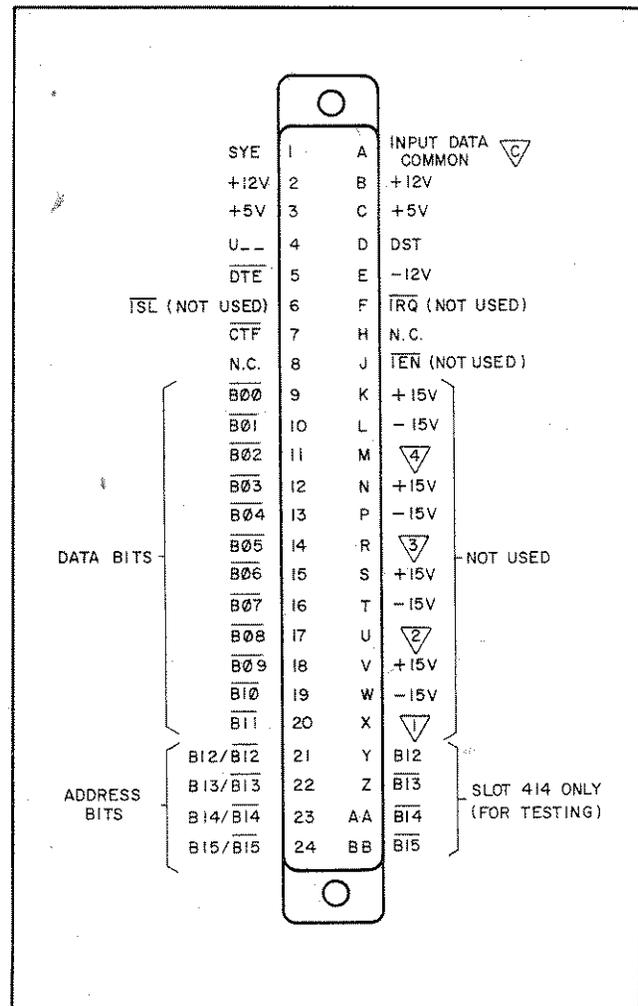

Figure 3-1. Multiprogrammer 400 Series Slot Connector
3-2 The programmable resistance cards are controlled by the multiprogrammer unit in which they are installed. All dc operating power, address and data bits, and control signals are supplied to the output cards through the multiprogrammer main frame connectors in slots 400 through 414. Figure 3-1 illustrates the signals present on all multiprogrammer 400-series connectors.
3-10 An output card is selected to receive new data when its associated address bits ($\overline{B12}/\overline{B12}$ through $\overline{B15}/\overline{B15}$) and a unit select line (U--) are all HI. Although both the true and complemented forms of the address bits are represented on Figure 3-1 (e.g. $\overline{B12}$ and $\overline{B12}$) only one of the two states is present on each of the four address gate lines when the card is installed in a multiprogrammer slot. For example, if the output card is installed in slot 405, then bits $\overline{B12}$ (1), $\overline{B13}$ (2), $\overline{B14}$ (4), and $\overline{B15}$ (8) will be present on the address lines;